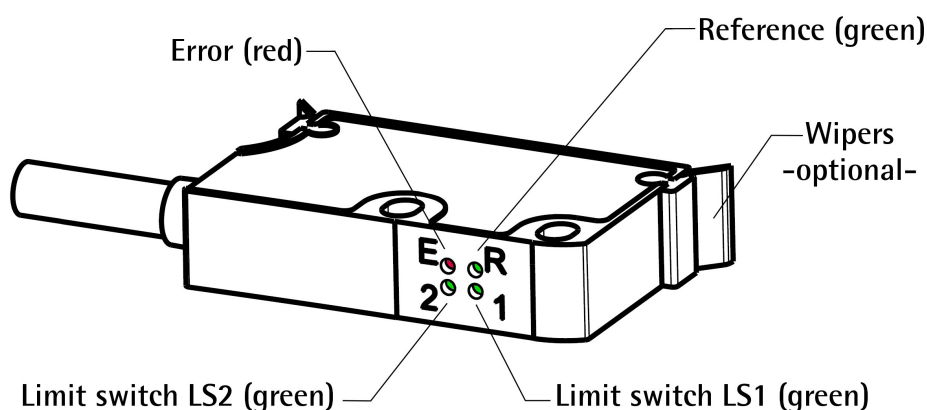

Figure 10 - Diagnostic LEDs and optional cleaning wipers
4.10 Diagnostic LEDs (Figure 10)
The following list shows some typical faults and errors that may occur during installation and operation of the magnetic measurement system. Refer also to the "4.10 Diagnostic LEDs (Figure 10)" section on page 27.